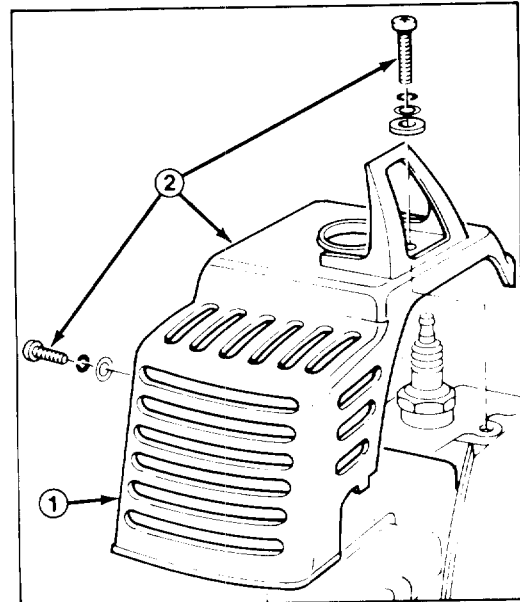

Figure 14
SERVICING MUFFLER (Fig. 14 & 15)
1. Remove three (3) screws securing muffler cover to trimmer (Fig. 14).